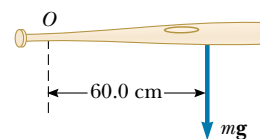

Figure P12.1
- A baseball player holds a 36-oz bat (weight = 10.0 N) with one hand at the point O (Fig. P12.1). The bat is in equilibrium. The weight of the bat acts along a line 60.0 cm to the right of O . Determine the force and the torque exerted on the bat by the player.